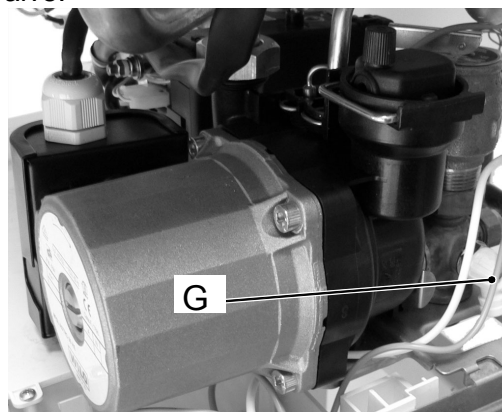

Figure 7
- 2) Open the c.h. drain cock G (Figure 7).